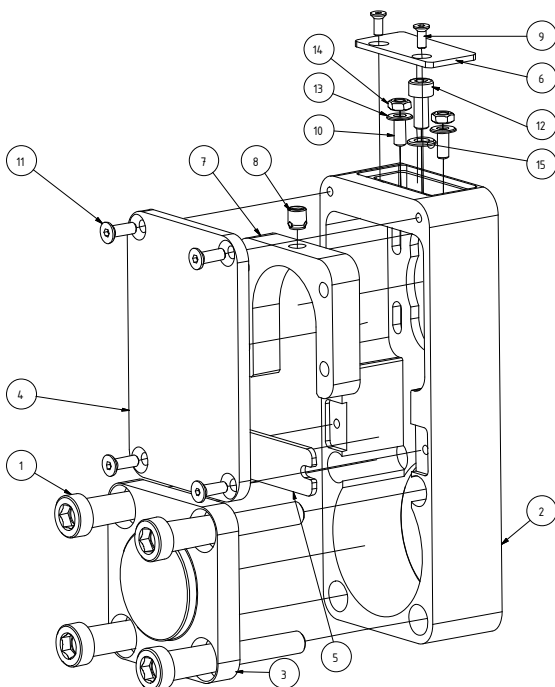
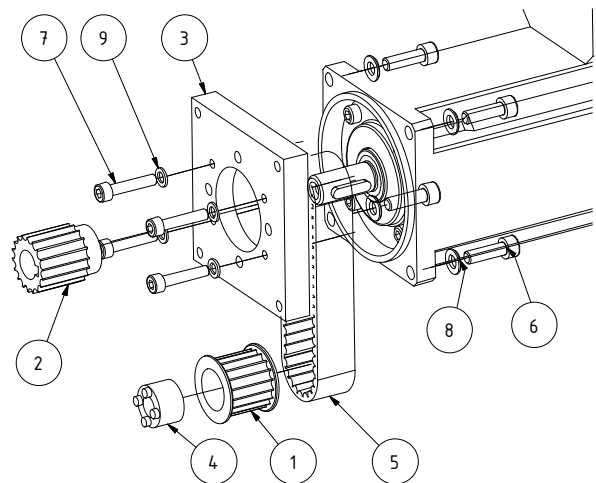
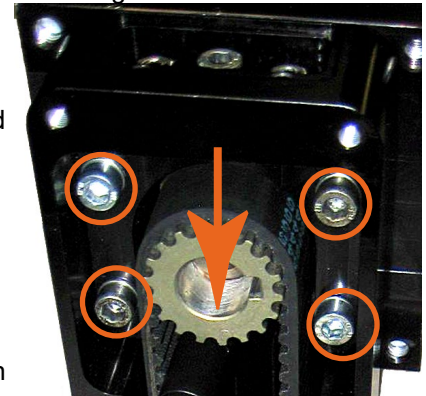

Figure 20: Parallel housing
Figure 21: Motor mounting option
Figure 22: Release toothed belt tension
- ◆ Dismantle lid (please refer to Figure 20 Pos.6 und Pos.4).
- ◆ Slightly loosen 4 screws (please refer to Figure 22 Pos.7), by 1 to 2 turns (for detailed view, please refer to Figure 20 and Figure 21.
- ◆ Loosen tightening screw (please refer to Figure 20 Pos.12) until the drive unit is not lowered any further.
- ◆ Remove 4 screws completely (please refer to Figure 21 Pos. 7). First at the bottom, then at the top.
- ◆ Dismantle motor / gearbox flange (please refer to Figure 21 Pos.3) by loosening the screws (please refer to Figure 21 Pos.6).
- ◆ Mount motor / gearbox flange (please refer to Figure 21 Pos.3) with the screws (please refer to Figure 21 Pos.6 & Pos.8).
- ◆ Screw in 4 screws (please refer to Figure 21 Pos.7) until the motor flange fits. Do not yet tighten.
- ◆ Mount lid (please refer to Figure 20 Pos.6 and Pos. 4).